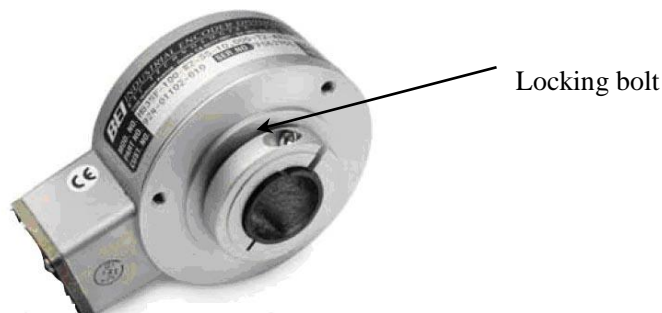

Figure 22 Encoder
3. Loosen the locking bolt of the encoder using a hex wrench 9/64" and loosen the bolt which connects the motor and the encoder bracket with a hex wrench 8mm, then remove the broken encoder. See Figure 22.